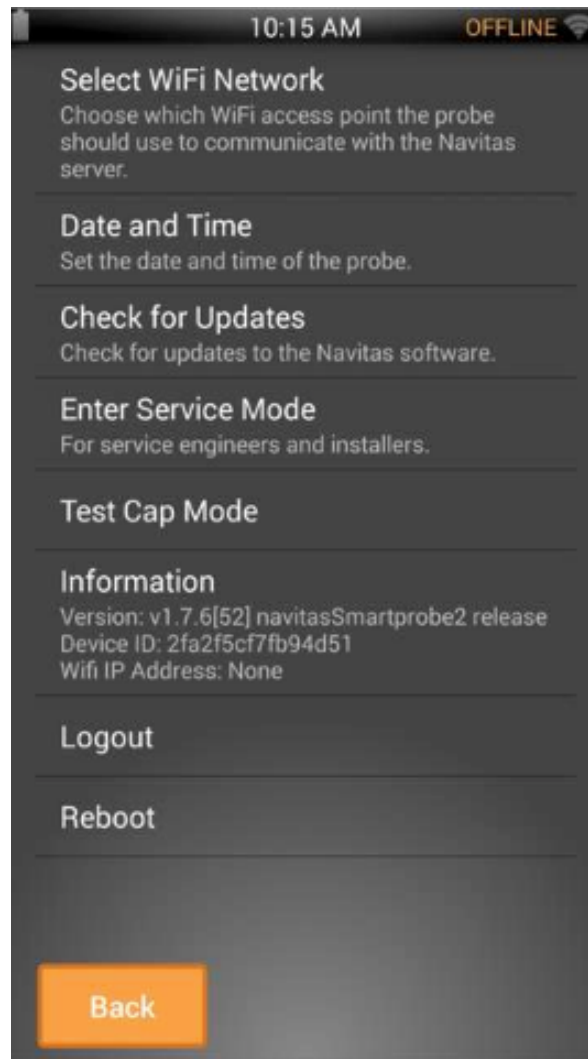

Fig. 33 – Settings menu
2. You will now see the Smart Probe settings menu (see Fig. 33).